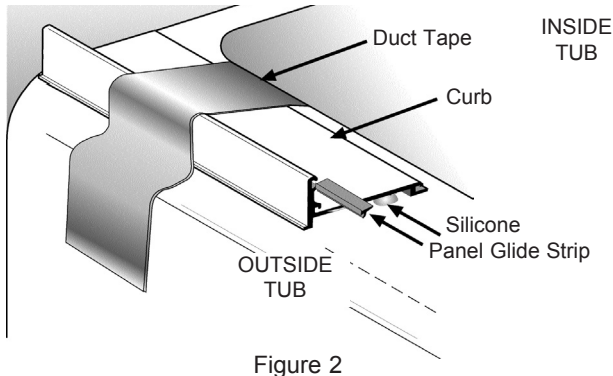

Figure 2
- B. Center the Curb (#2) on the sill/dam. In some installations, you may prefer to position the Curb (#2) forward or back of center. For example, by moving the Curb (#2) forward, you will slightly increase the depth within the shower area (See Figure 2).
- F. Cut two pieces of Duct Tape 12" long. Next, use the Caulking Gun to apply a thick bead of Silicone sealant (approximately 3/8" in diameter) to the bottom surface of the Curb (#2) along its entire length. Place the Curb (#2) on the shower sill, in the position you determined in Step 3B. Use the two strips of Duct Tape to temporarily hold the Curb (#2) in place, but DO NOT place the tape within 2" of the wall. In other words, the distance (gap) between the wall and the tape should be 2" or more away from the walls so that the tape will not be in your way when you install the Wall Jamb (#3) (See Figure 2).